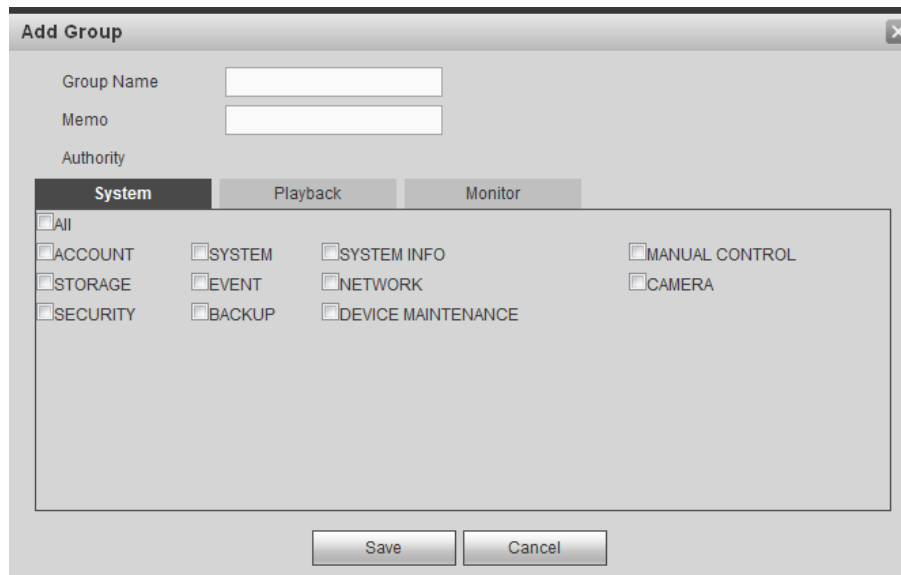

Figure 5-140
Step 1 Click Add group button. Enter add group interface. See Figure 5-140.